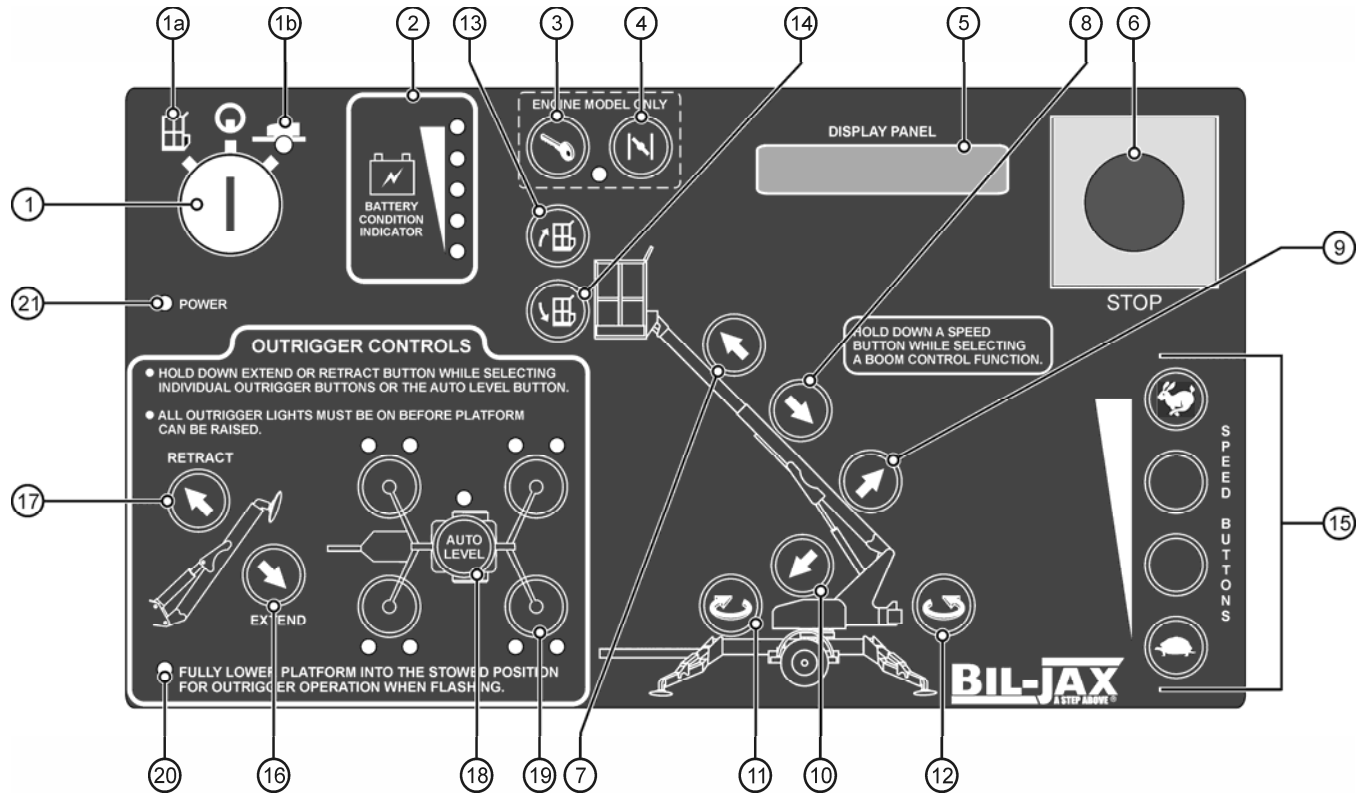
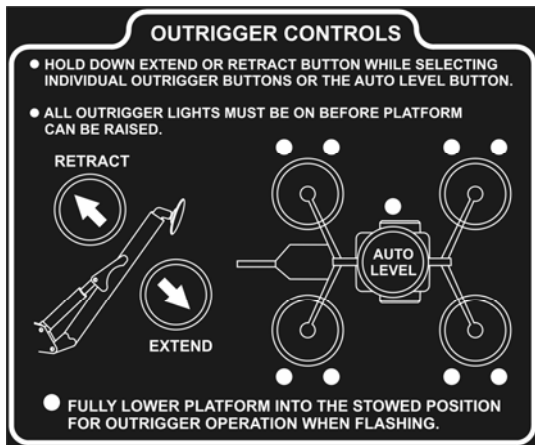

Figure 3-1. Ground Control Panel
Figure 3-4. Outrigger Controls
The ground control station includes the following controls and Indicators. Refer to Figure 3-1 for control locations.
- ❑ Verify that the control status indicator LED is lit. If the control status indicator LED is not lit or is flashing, the outrigger buttons will not work. A flashing control status LED indicates that one or more of the booms is raised and needs to be stowed. Refer to Figure 3-1 and Figure 3-4.